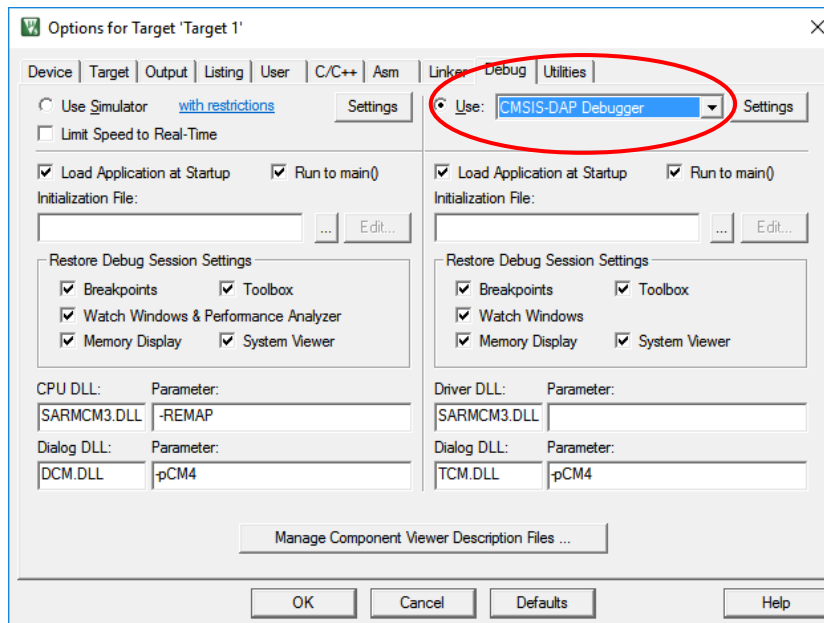

Figure 67 - uVision Debug tab
3. Go to the “Debug” tab and select “CMSIS-DAP Debugger” as shown in Figure 67.